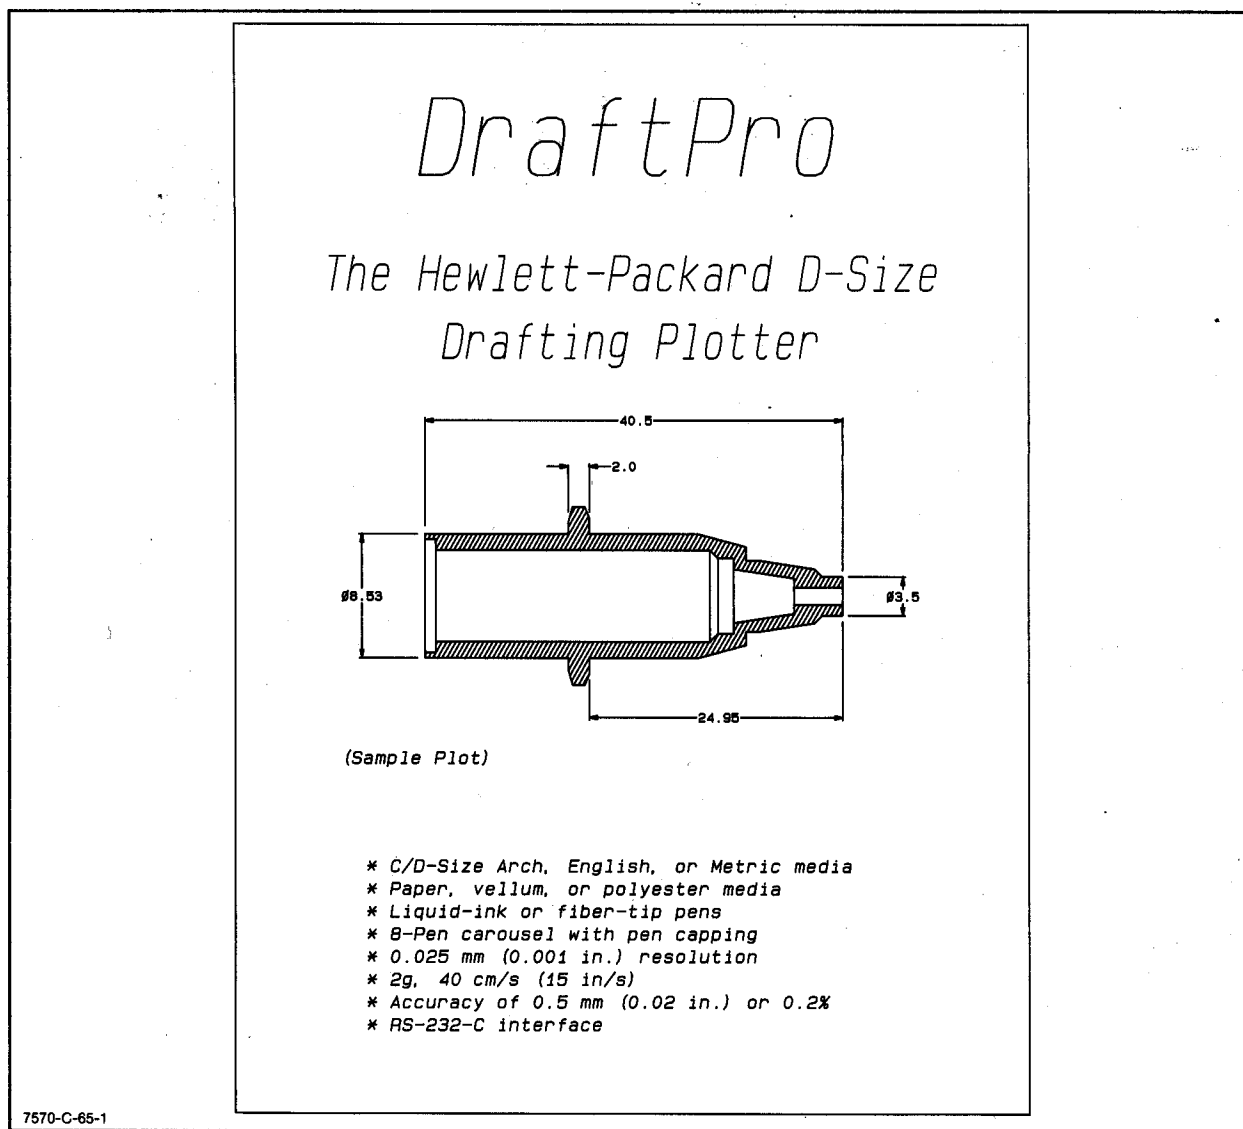

Figure 3-8. Demonstration Plot
- a. Connect the plotter to the ac line and turn the plotter ON (I).
- b. Load either ISO A1 (D) or A2 (C) paper into the plotter.
- e. When the plot is complete the plotter will move the paper to the view position and remain in the READY state. The demonstration plot is illustrated in Figure 3-8.